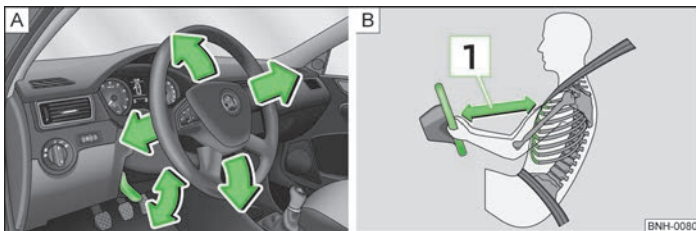

Fig. 62 Adjustable steering wheel: Lever below the steering column/safe distance to the steering wheel
- Maintain a distance of 25 cm **1** to the steering wheel » Fig. 62 on page 69 – **2**. Not maintaining this minimum distance will mean that the airbag system will not be able to properly protect you – hazard!
- Pull the lever below the steering wheel down » Fig. 62 - .